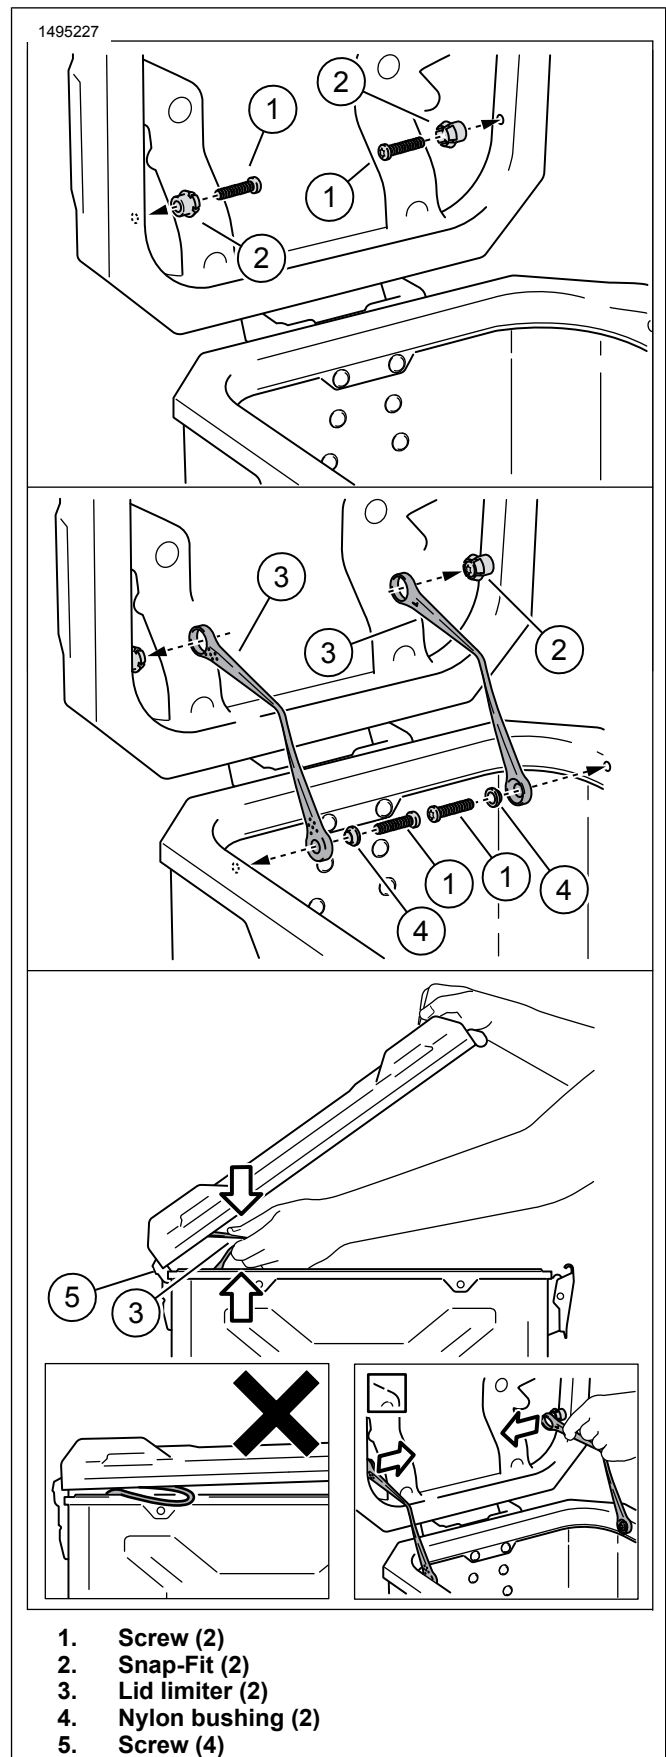

Figure 4. Lid Limiter Mounting
1. See Figure 4. Open lid. Attach snap-fit (2) at lid frame. Tighten screws (1), hand tighten, fully seated.